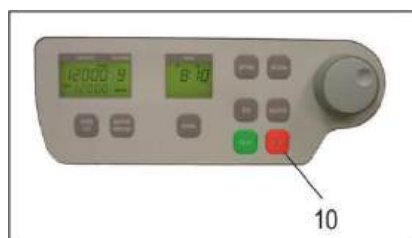

Figure 26
With the "stop" key (10), the run time can be interrupted, at any time, (see Figure 26). After pressing the key, the centrifuge decelerates with the respective pre-selected intensity, down to a standstill.